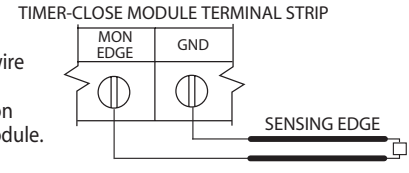

**Figure 10B**
- 6B) **Monitored** sensing edge connects to Timer-Close Module terminals (MON EDGE and GND) or to (ODC STB) terminals on main board through a MillerEdge Interface Module as shown in **Fig. 10B**.